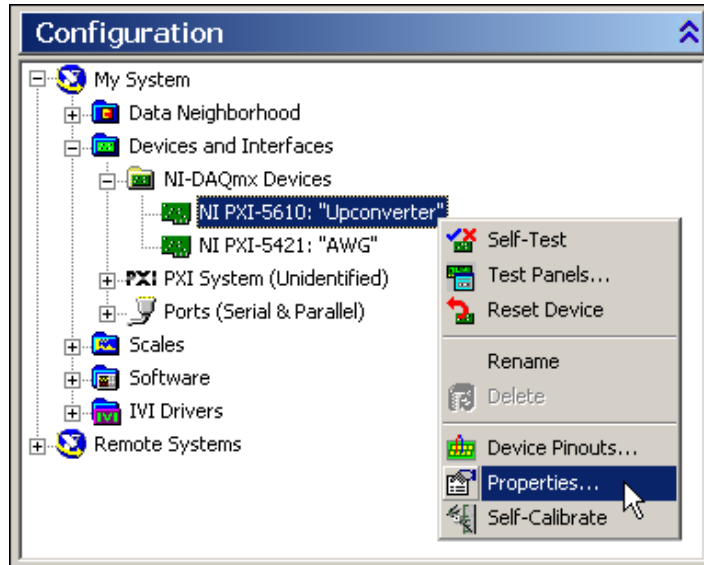

Figure 2. Select Properties From the NI 5610 MAX Right-Click Menu
5. Right-click **NI 5610** and select **Properties** as shown in Figure 2 below.